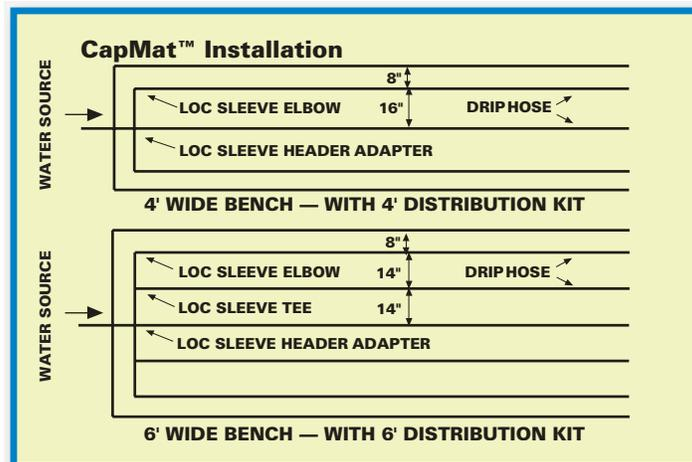

Figure 1
1. Cut drip hose to the length needed for benches to be watered. Lay them in place over the Cap Mat following the diagram (figure 1) shown below. Plan to leave some room at the head of the bench to accommodate the Loc Sleeve Header.
2. From the short length of tube provided (4' or 6'), cut length needed to connect the Loc Sleeve Header to the Tees (figure 2) and elbows (figure 3). For a 4' installation cut 2 pieces 12 inches long. For a 6' installation cut 2 pieces at 10¹/₄ inches to connect Loc Sleeve Header to the Tees, and 2 pieces 11¹/₂ inches to connect tees and elbows. These lengths will result in specified spacing of drip hose lines (figure 1).